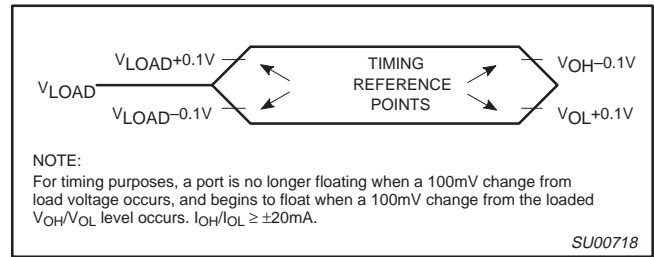

Figure 15. Float Waveform
- See Figures 17 through 20 for  $I_{CC}$  test conditions and Figure 15 for limits..